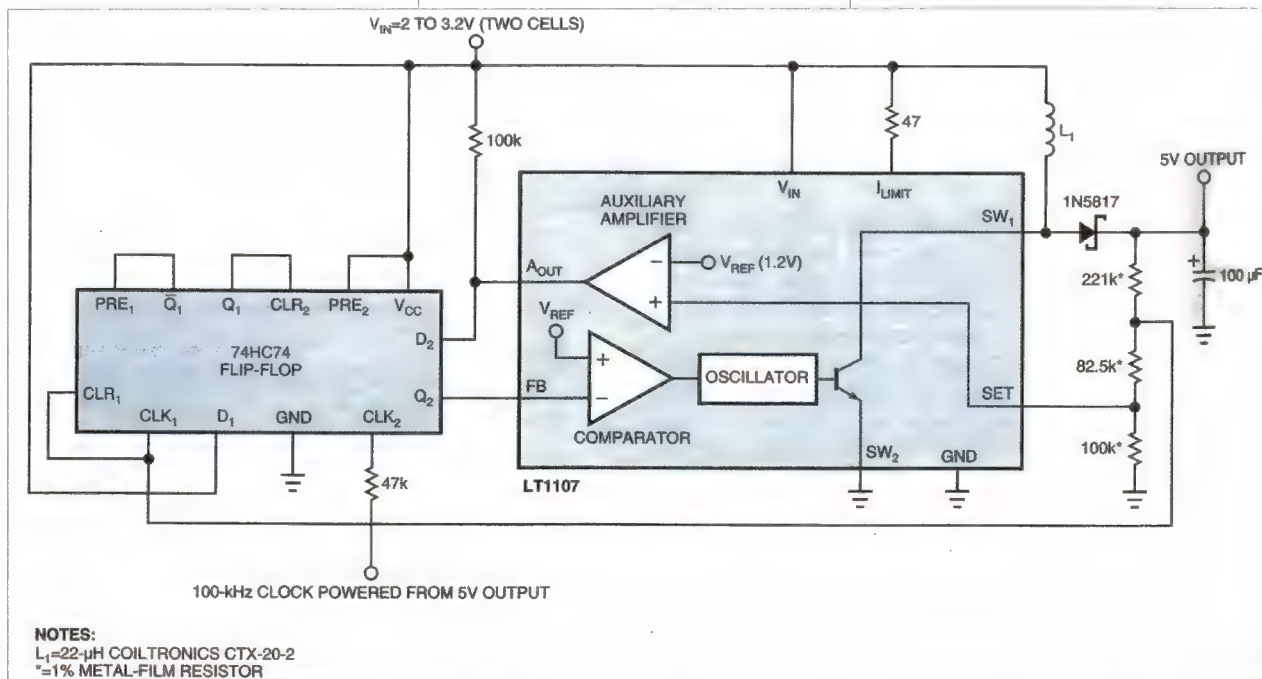

Figure 1 A synchronizing flip-flop forces the LT1107 gate-oscillator-type switching regulator's noise to be coherent with the 100-kHz clock.
**Figure 1** This circuit makes it easy to test and match the current gain of complementary bipolar transistors. Matched transistors will cause the voltmeter to read 0V.
In most cases, this asynchronous, variable-frequency operation doesn't create any problems. However, some systems are sensitive to the asynchronous characteristics. The system in **Figure 1** slightly modifies a gate-oscillator-type switching regulator by synchronizing its loop-oscillation frequency to the system's clock. The oscillation frequency and its
To analyze the system in **Figure 1**, temporarily ignore the flip-flop, and assume the circuit directly connects the  $A_{OUT}$  and FB pin of the LT1107 regulator. When the output voltage decays, the set pin drops below  $V_{REF}$ , causing  $A_{OUT}$  to fall. The internal comparator then switches to high, biasing the oscillator and output transistor into conduction.  $L_1$  receives drive pulses, and the circuit deposits this inductor's flyback events into the 100- $\mu$ F capacitor via the diode, ultimately restoring output voltage. This action overdrives the set pin, causing the IC to switch off until it requires another cycle. This oscillator cycle's frequency is load-dependent and variable.